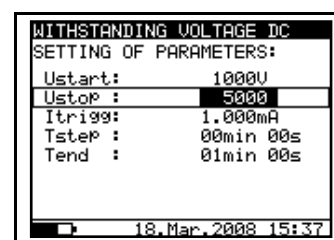

Fig. 30. Set-up menu in Withstanding Voltage function
- Press the **SELECT** key, (the set-up menu (**Fig. 30**) appears on display);